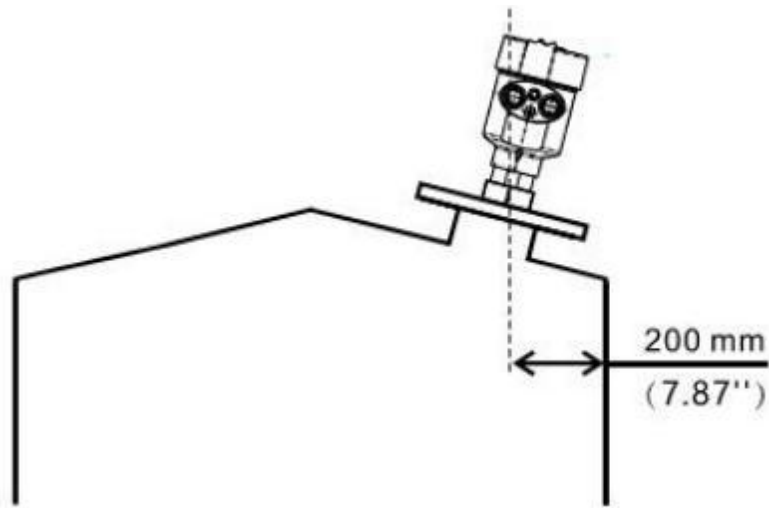

Figure 4-3 Installation at least 10cm from the container wall
■ The instrument installation should be at least 20cm away from the container wall, otherwise it is likely to produce incorrect readings, as shown in Figure 4-3.